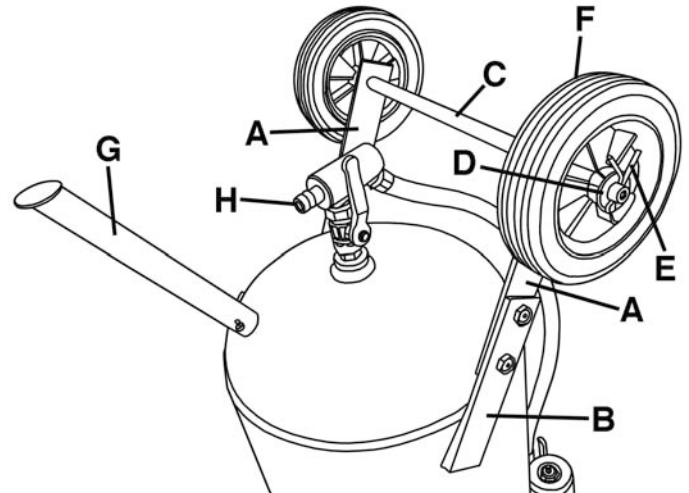
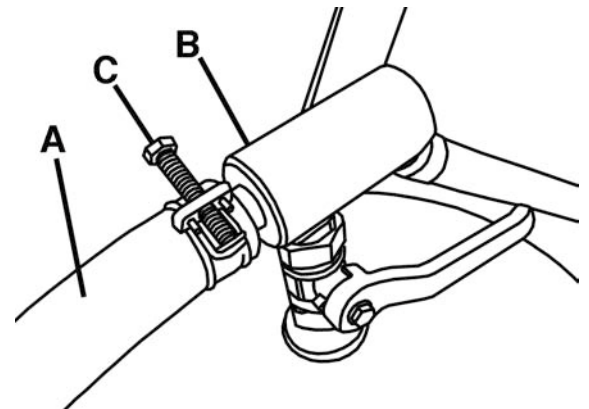

Figure 1
Figure 2
First step is to locate the 2 axle brackets (A) Fig.1 and 4 short hex. bolts. Position the axle brackets on the inside of the welded brackets (B) and secure each axle bracket in place using 2 hex. bolts each.
Locate the axle (C) Fig.1, 2 cotter pins (D), 4 large washers (E) and both wheels (F). Insert a cotter pin into one of the end holes of the axle and using a screwdriver, split the pins apart to prevent it from backing out.
Locate the media hose (A) Fig.2 and push it onto the sand outlet connector (B), also refer to (H) Fig.1. Make sure it is push in all the way and then secure it into place by tightening the screw (C) on the wire clamp. To avoid a potentially dangerous situation, make sure that the media hose is securely fixed and will not slide off.